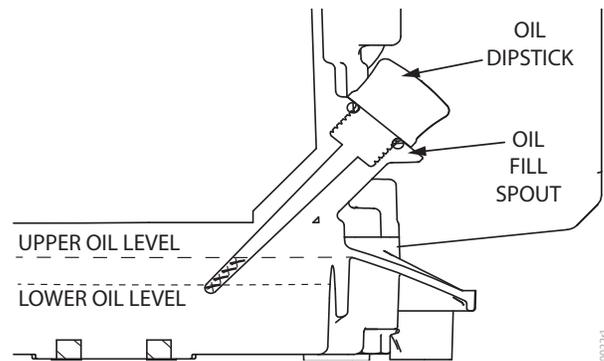

FIGURE 8: *Dipstick And Oil Levels.*
3. Tip engine back onto a level surface and fill with appropriate oil to the top of the marking on the dipstick (**SEE FIGURE 8**). **DO NOT OVERFILL.** For proper oil capacity and specification, see the engine manufacturer's instructions.